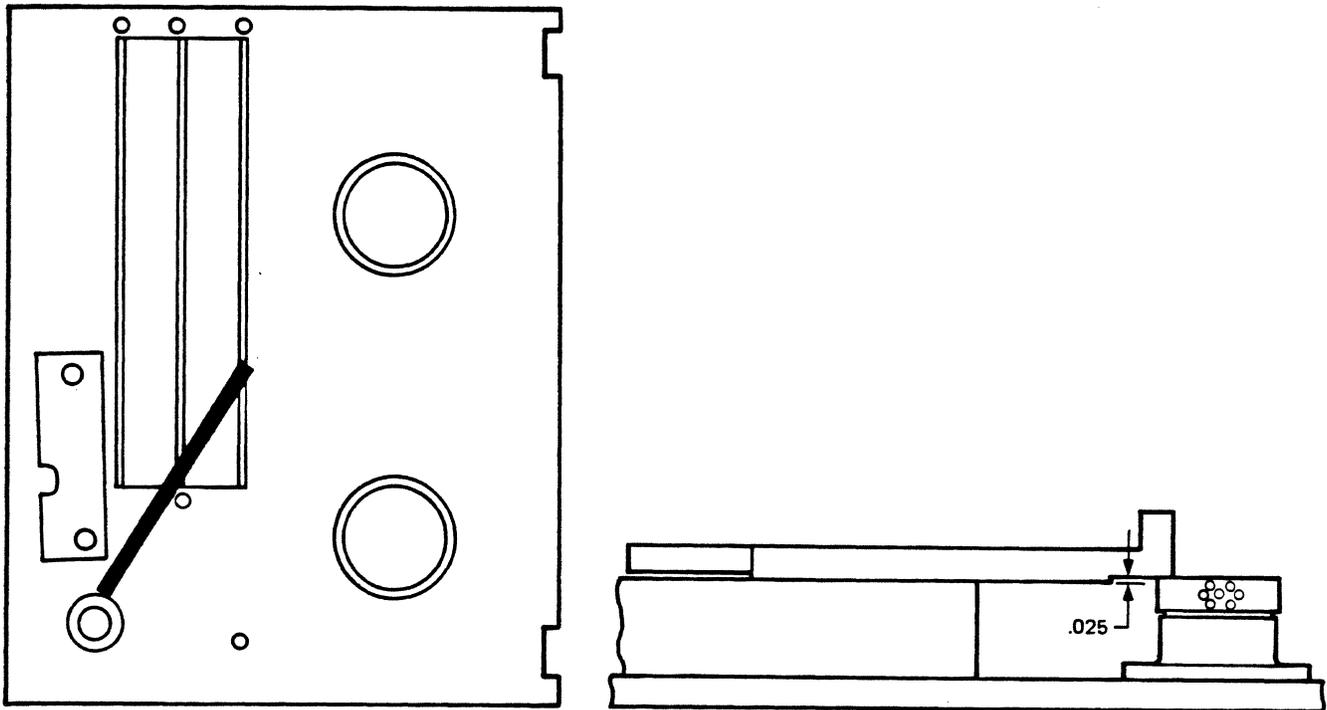

Figure 5-12. Capstan Height Alignment Tool Positioning
- d. Position the alignment tool on the chamber and capstan as shown in figure 5-12. The capstan should be flush against the .025-inch step of the alignment tool. Measure to the metal edge of capstan itself and not to the plastic speed disk.